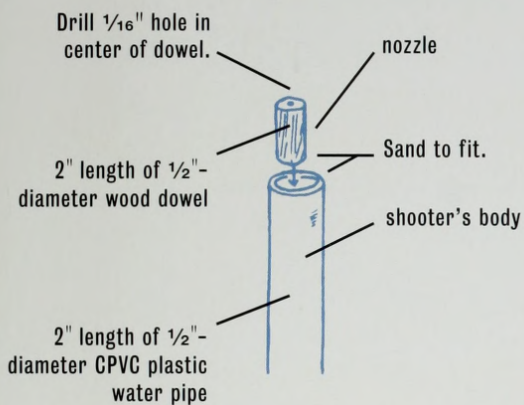

Fig. 1
1. To make the nozzle, use a $\frac{1}{16}$ " drill bit to make a hole in the center of a 2" length of a $\frac{1}{2}$ "-diameter wood dowel. Next, use a small hammer to tap this nozzle into the end of the $\frac{1}{2}$ " pipe. If the nozzle seems a bit too large to fit, sand it and try again. While the nozzle should be snug in the pipe, don't hammer it in so hard that you break the pipe! See Fig. 1.